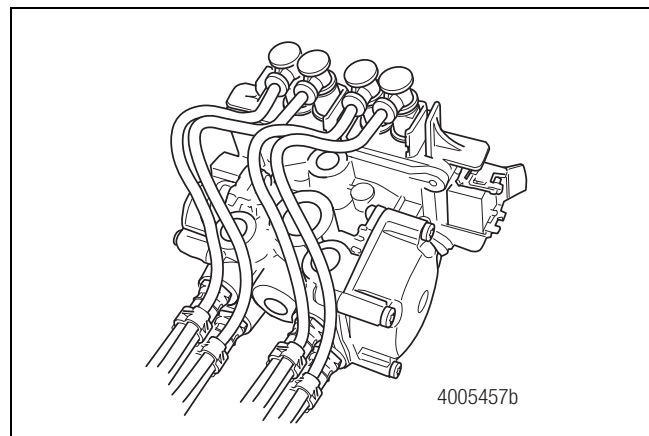

Figure 8
8. Create a strain relief to protect the sensor extension connector terminals. Without this strain relief, normal trailer jounce and vibration will cause the terminals to spread and loosen. Use a tie wrap or clip to secure the cable to the brake air delivery hose as close to the fitting as possible. Figure 8.